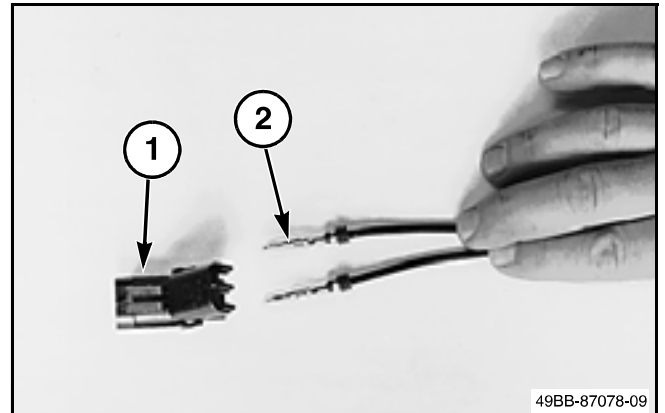

FIG. 6
FIG. 6: If the connector (1) is a flat connector, make sure the locking tabs for the cover at the rear of the connector are in good condition. Make sure the cover is fastened securely. If the cover is damaged or missing, replace the connector. Inspect the locking tabs that fasten the two halves of the connector together. If the tabs are damaged or missing, replace the connector. Make sure all of the terminals (2) in the connector are seated correctly. Make sure the wire seals are not damaged. The ends of all the terminals must be even with each other. Replace any terminals that are damaged or missing. Repair parts for the connectors are available from your dealer.